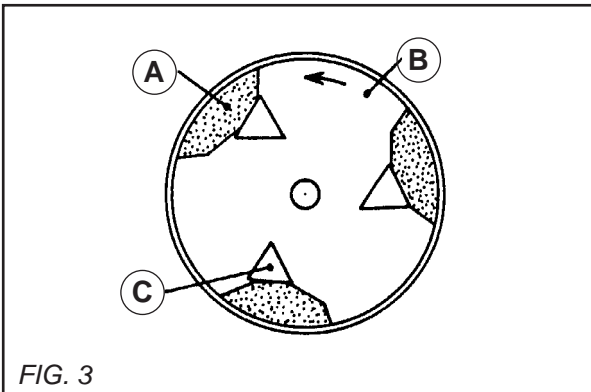

FIG. 3
- Place the magnesia block (A) on the plate (B) so that the block's angular section is between the wedge (C) and the edge of the plate. Insert the block by pressing it while orienting the wedge so that the block is held by greatest support surface possible (see FIG. 3).